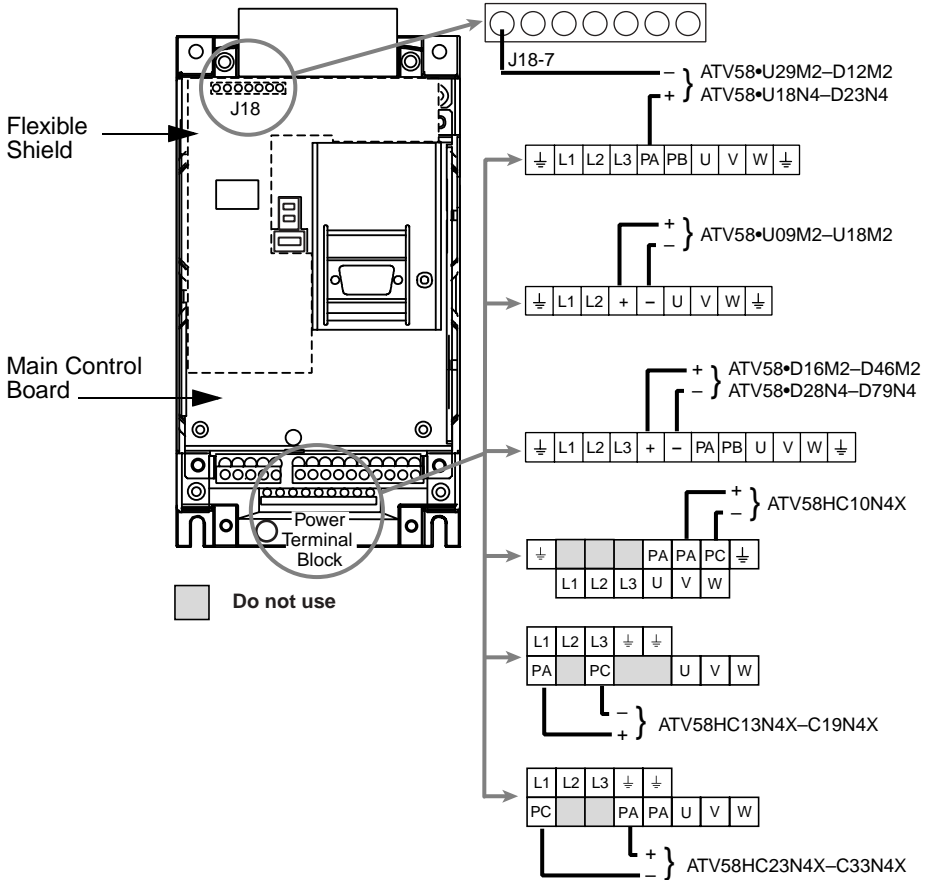

Figure 19: DC Bus Measurement Terminals
The DC bus voltage level is determined by monitoring the (+) and (–) measurement points. Their location varies by drive controller model number as listed in Table 19 and shown in Figure 19 on page 46. The drive controller model number is listed on its nameplate.
3. Read the model number of the drive controller from the nameplate and identify the corresponding (+) and (–) measurement points from Table 19 and Figure 19.